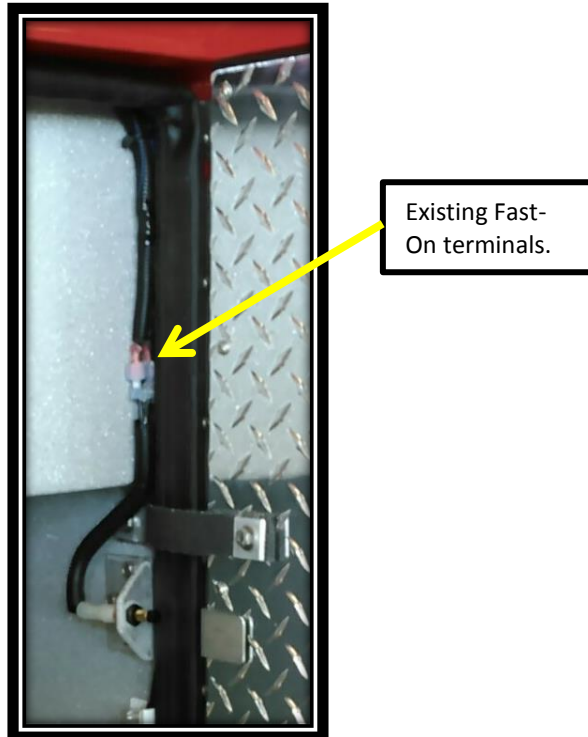

FIG. 7-1
7. Re-route the existing door switch wires from the latch side to the hinge side of the door frame and re-connect the existing wires to the new door switch. The existing fast-on terminals can be removed and the wires can be spliced together with solder and heatshrink to reduce the wire bundle size if desired. Depending on the number of compartment lights, the installation can be further reduced by using a single piece of 1/2" loom to route both switch and light wiring together. Refer to FIG. 7-1 and FIG. 8-1.